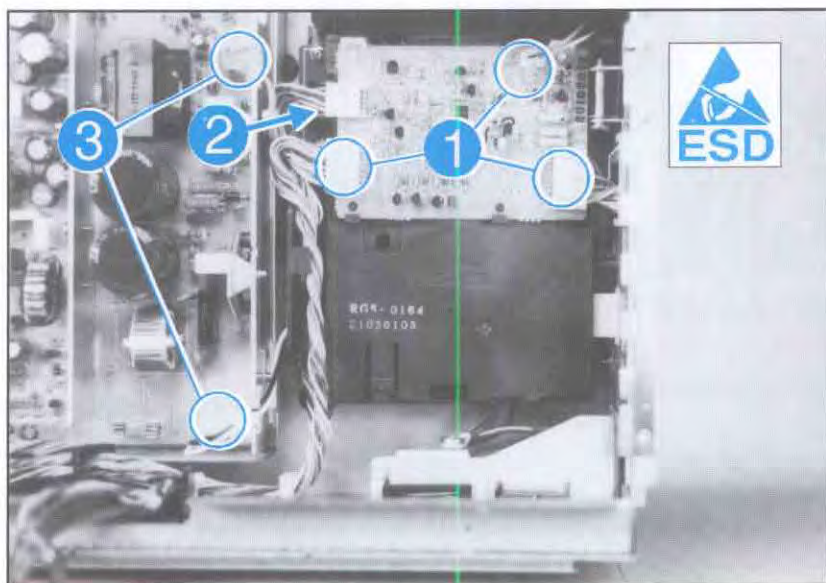

Figure 6-20. AC Power Inlet Assembly
5. Unplug (3) connectors (J202, J203 and J204) from the Sensor PCA (see Figure 6-20, callout 1).
6. Unplug (1) connector (J152) from the AC Driver PCA (behind the Sensor PCA - see Figure 6-20, callout 2).
7. Unplug (2) connectors J1 and J6 from the DC Power Supply (see Figure 6-20, callout 3).
8. Unplug the (1) connector from the left side of the Main Power Switch (see Figure 6-20, callout 4).